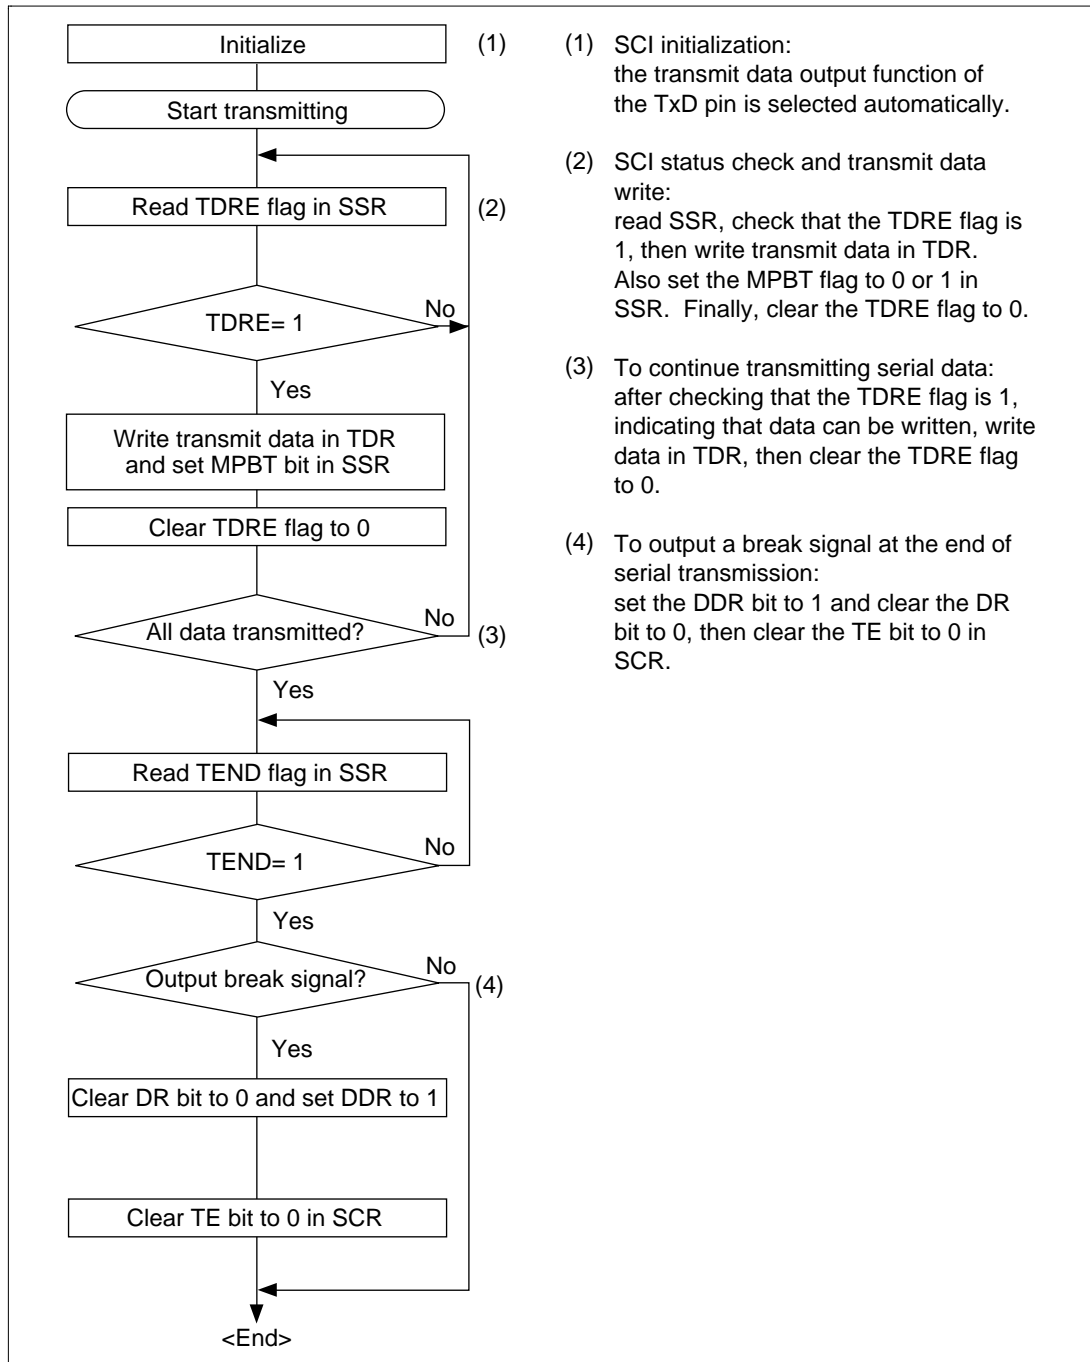

Figure 12.10 Sample Flowchart for Transmitting Multiprocessor Serial Data
- Transmitting Multiprocessor Serial Data: Figure 12.10 shows a sample flowchart for transmitting multiprocessor serial data and indicates the procedure to follow.